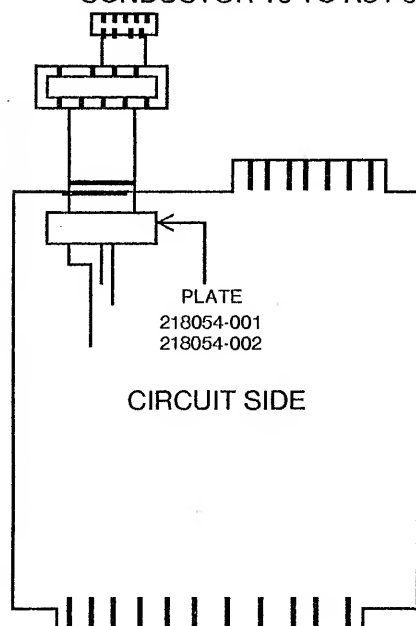
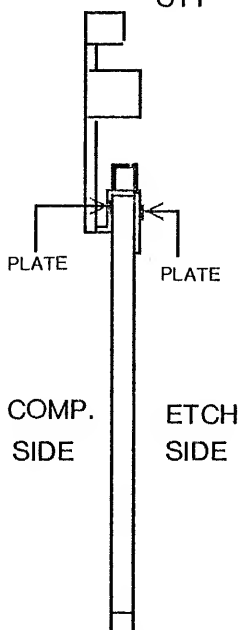

FIG. 1
FIG. 2
6.0 MOUNT CABLE ASSEMBLY (2533) AND PLATE ASSEMBLY (218054-001) PER FIG. 1 AND FIG.2.